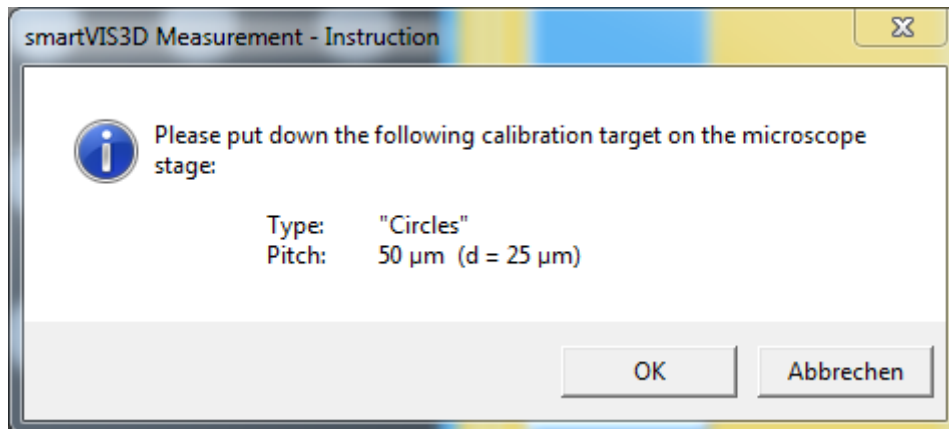

FIGURE 29: SECOND INSTRUCTION DIALOG OF THE CALIBRATION PROCEDURE
6. The second instruction dialog provides information about a calibration target corresponding to the selected magnification factor, see Figure 29. Make sure to use the correct calibration target, because only if the proper target is used a correct calibration of your measurement device is feasible